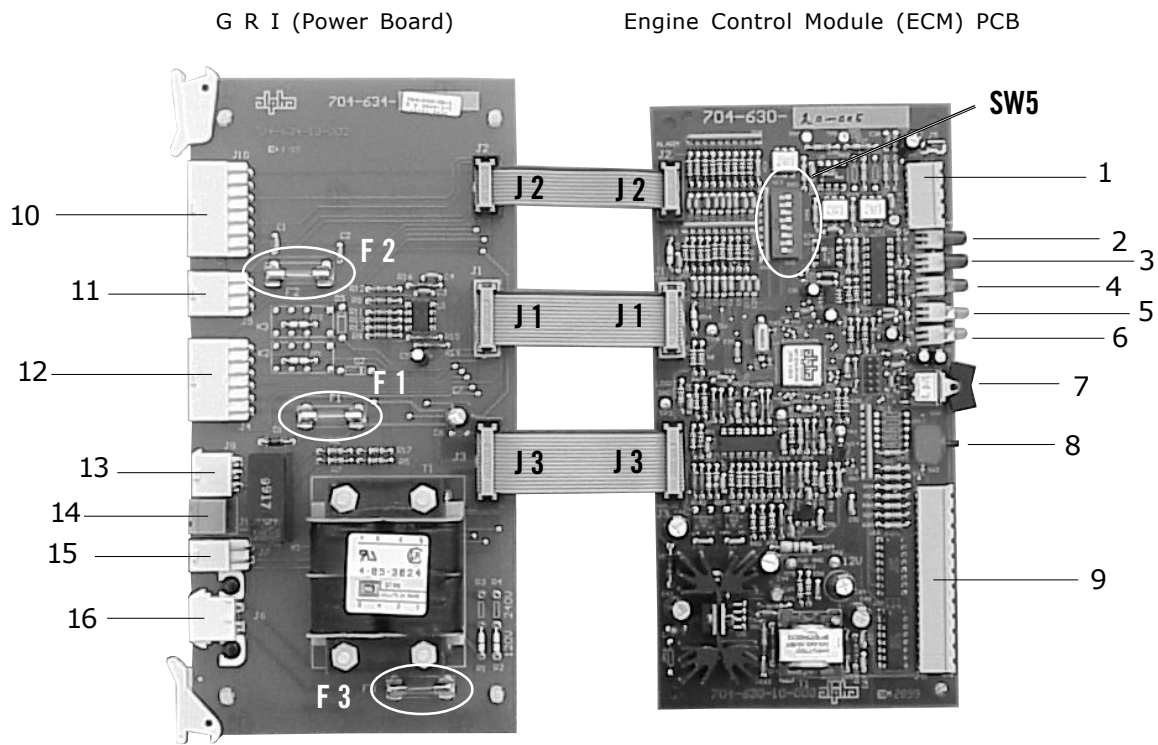

Fig.7.7 ECM Printed Circuit Boards
The Alarm Interface Connector (J10) connected to the Power PCBA. The interface control is a 14-pin (2x7 row) Universal Mini Mate-'N'-Lok style male connector. See Fig. 7.7, item 10 for location.
ECM - Inverter Battery DC Sense Interface Connector J8. See Fig. 7.7, item 13 for location.
The Battery Charger Control Interface Connector is connected between the charger module and ECM as shown. The interface control is a terminal block 2-position plug-in connector. See Fig. 7.7, item 14 for location.
The interface control is a 12-pin (2x6 row) Mini Mate-'N'-Lok style connector. See Fig. 7.7, item 12 for location.
The interface control (J6) is a 2-pin (1x2 row) Mini Mate-'N'-Lok style connector. See Fig. 7.7, item 16 for location.
The Alarm output interface and communications connectors are referenced and described in Section 3.4, *Transponder Interconnection*, of the ECM Operators manual (Alpha p/n 744-862-C0). See Fig. 7.7 items 1 and 9 for location.